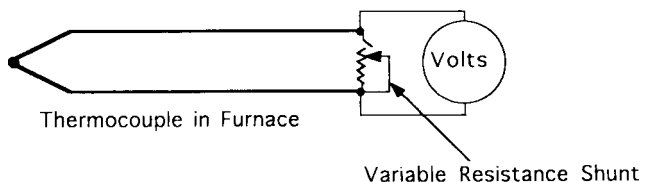

FIG. 1 An Alternative Method to Measure Loop Resistance
7.1.3 An alternative method to determine the loop resistance of a thermocouple at elevated temperatures is to shunt the thermocouple at the connector prongs with a switchable variable resistor. Measure the open-switch thermocouple Seebeck voltage between the connector prongs with a high impedance voltmeter capable of measuring in the microvolt range (see Fig. 1). The measuring junction must be at constant temperature and the connector prongs must remain at the same terminal temperature during this test. Close the switch and adjust the resistance of the variable resistor until the closed-switch measured voltage is ½ that of the open-switch Seebeck voltage (at which time the variable resistor has the same resistance as the thermocouple loop). The variable resistor is then removed from the circuit and its resistance measured directly with an ohmmeter. This method avoids the complication of the Seebeck voltage that is referred to in Note 2.